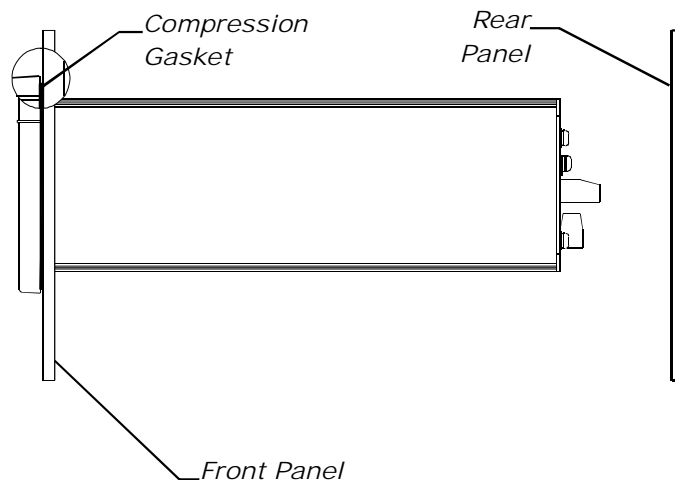

FIG. 3-3 NEMA 4 GASKET FLUSH AGAINST THE FRONT PANEL
Step 4. Slide the controller into the panel cutout until the NEMA 4 & 4X gasket is flush against the front panel of the enclosure. (See Fig. 3-3)